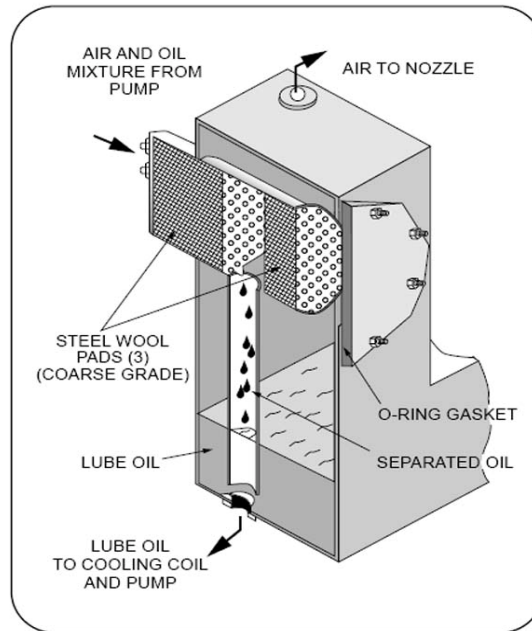

FIGURE 8-8. Air Oil Receiver Tank
8. Lightly coat the stem with the lubricant provided with the packing kit. Place the new packing, O-rings and guides onto the stem in the sequence shown in Figure 8-8. The beveled face of the guides and the teflon rings must face upward, with the exception of the upper brass guide which is facing down. Be sure that the O-rings are properly located.